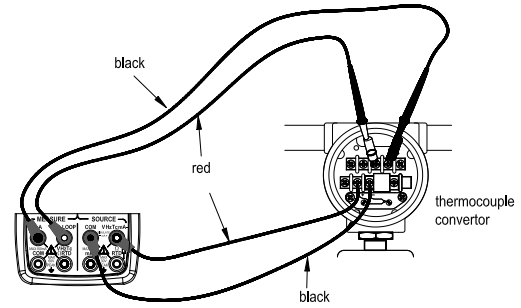

Figure 15 Using 24v loop power circuit supply
**Step 2:** Connect the calibrator with the loop current terminal of the converter as shown in Figure 15.